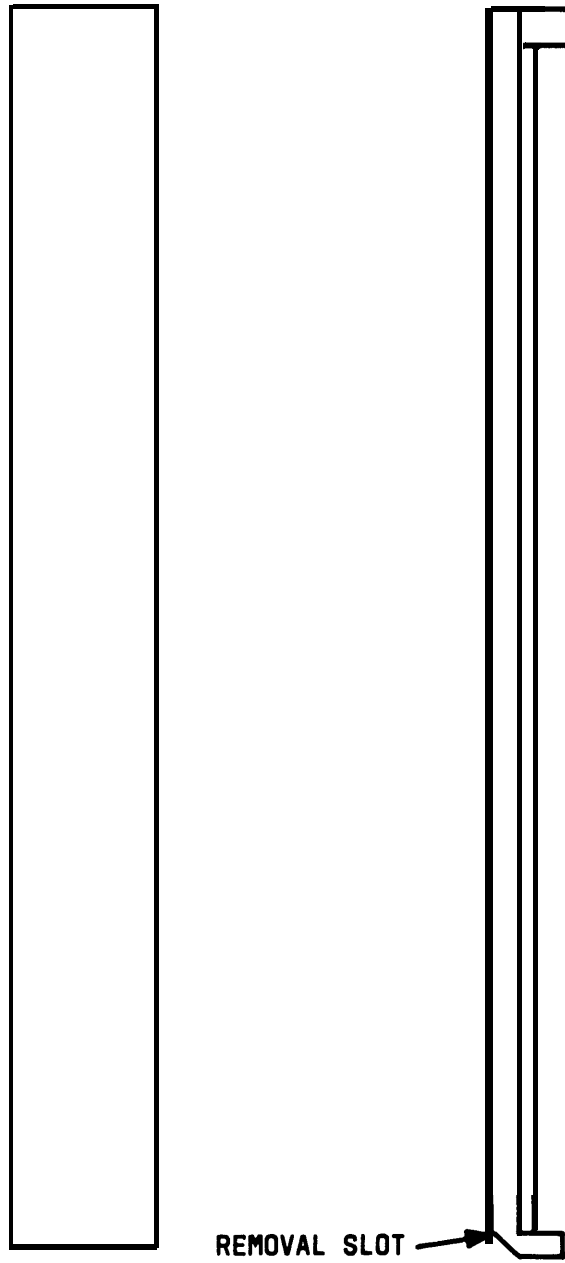
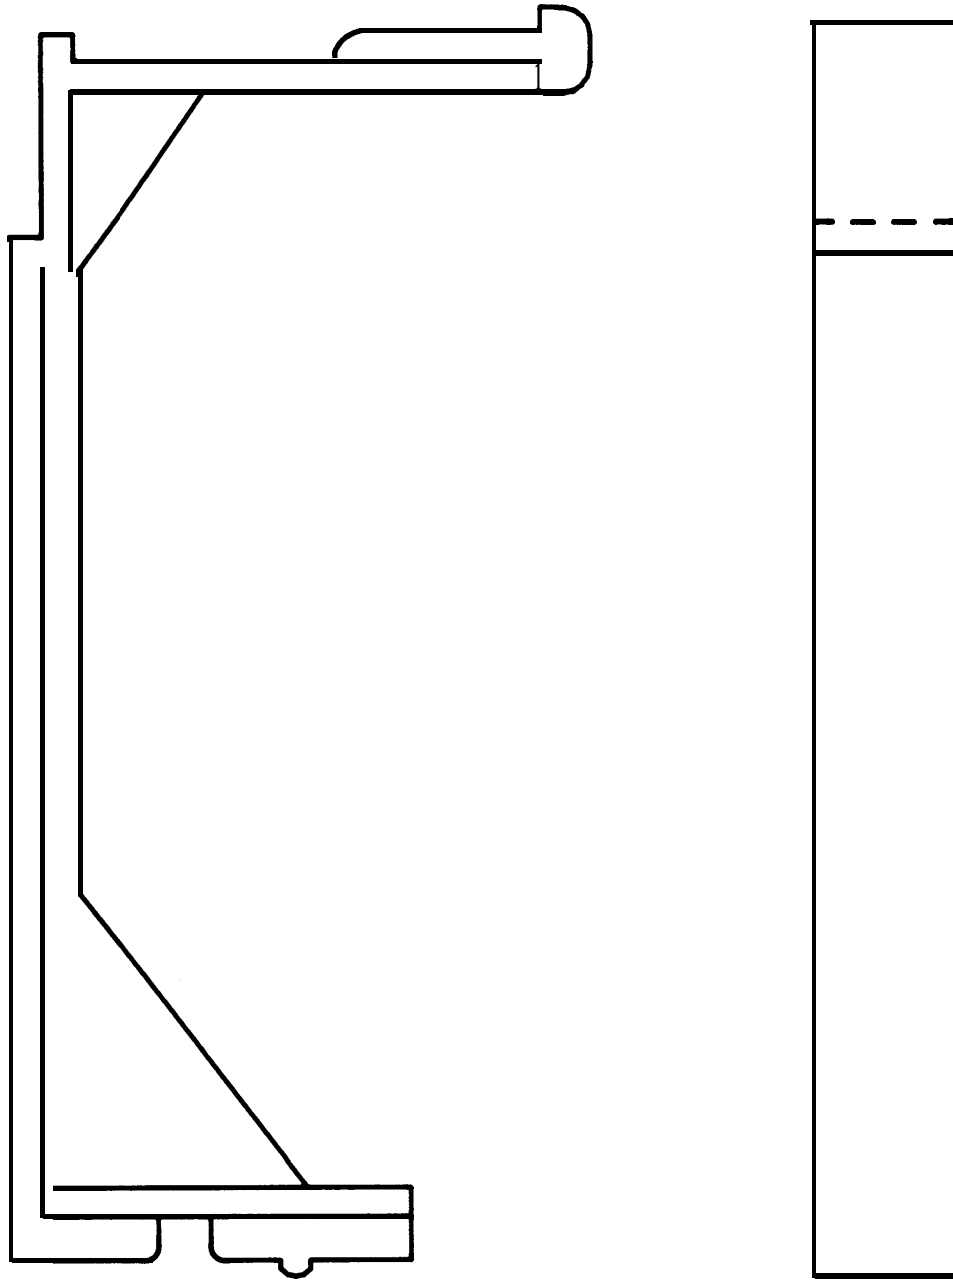

Figure 24. Blank Circuit Pack Faceplate (Removal Slot Location)
Figure 25. Blank Circuit Pack Faceplate
1. See **WARNING**. If the circuit pack is being installed in a System 75, use a flat-blade screwdriver to remove blank circuit pack faceplate from the selected location in carrier (Figure 24). If the circuit pack is being installed in a System 75 XE, snap the circuit pack faceplate from the selected location in the cabinet (See Figure 25).